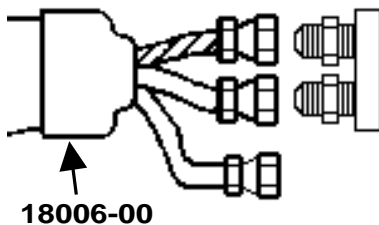

Fig. 7
6. Attach Material Hose Fittings at one end of Whip Hose, P/N 18006-00, to corresponding fittings on Hose Junction block. (See Fig. 7)